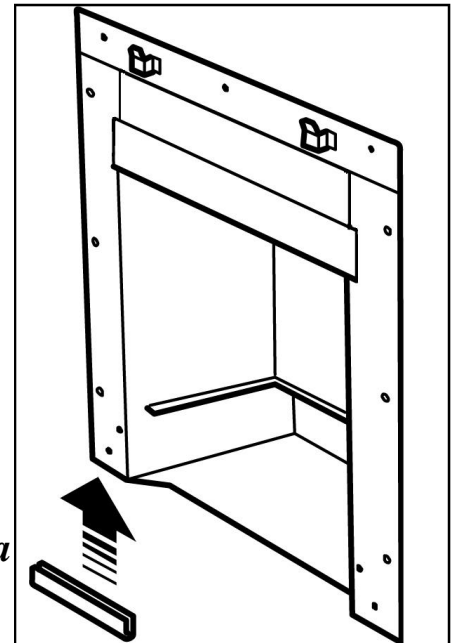

Figure 9. 'U' Seals
2. Fit the two “U” section seals to the bottom edges of the convection box side flanges (See figure 9).